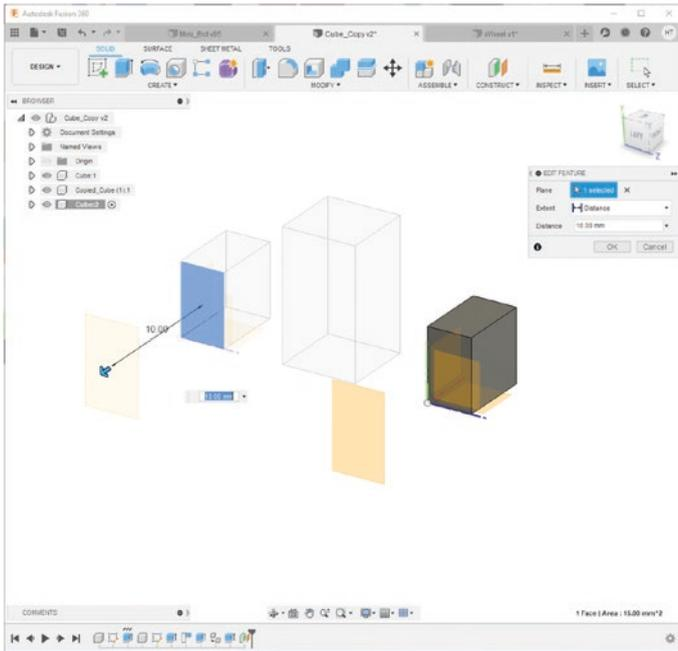

Figure 8-10. Make the offset plane 10mm from the cube
3. Now move the offset plane to 10mm. See Figure 8-10.